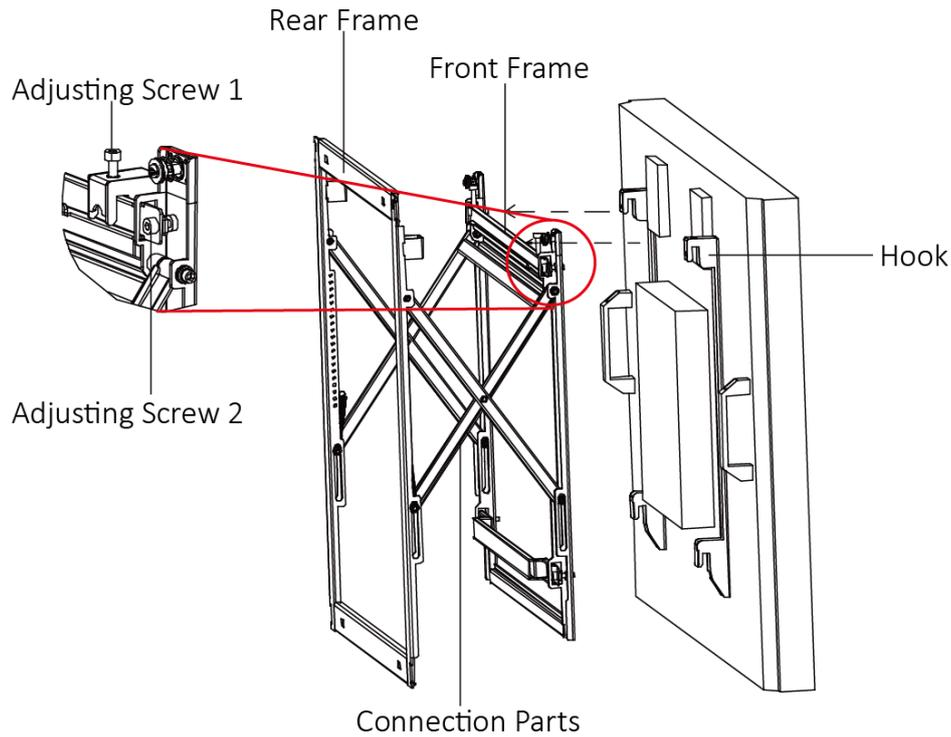

Figure 2-6 Mount Displays to Brackets
Step 2 Tighten or loosen adjusting screws 1 (as indicated in the Figure 2-6) to adjust the horizontal gaps between the displays.
Step 3 Tighten or loosen adjusting screws 2 (as indicated in the Figure 2-6) to adjust the flatness of the displays.